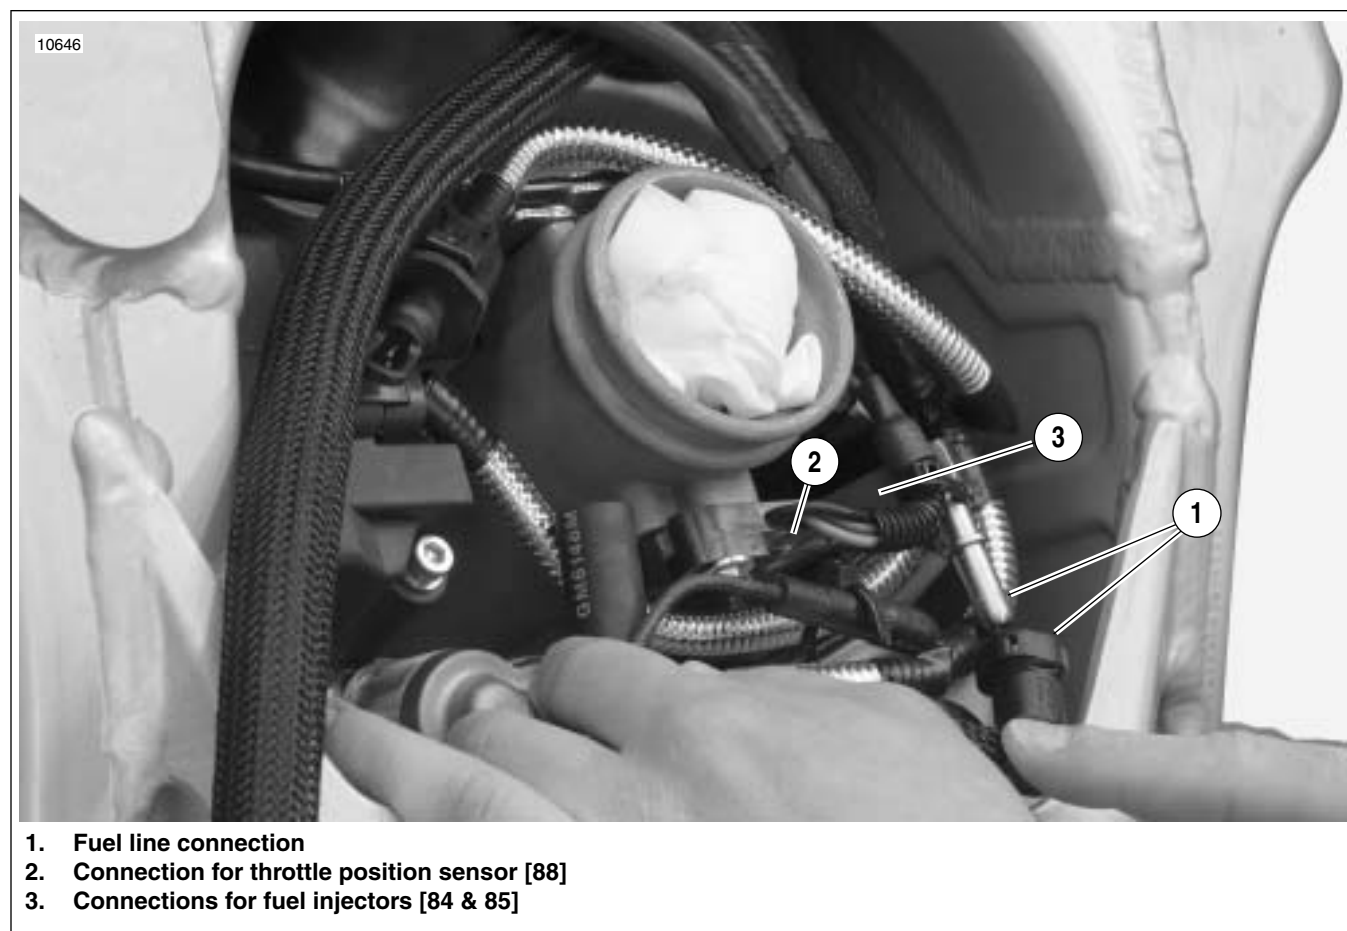

Figure 3-56. Fuel Line and DDFI Electrical Connections (Typical)
39. See Figure 3-56. Connect throttle position sensor [88] (2).
40. Connect fuel injector leads [84 & 85] (3).
41. Connect fuel line (1).